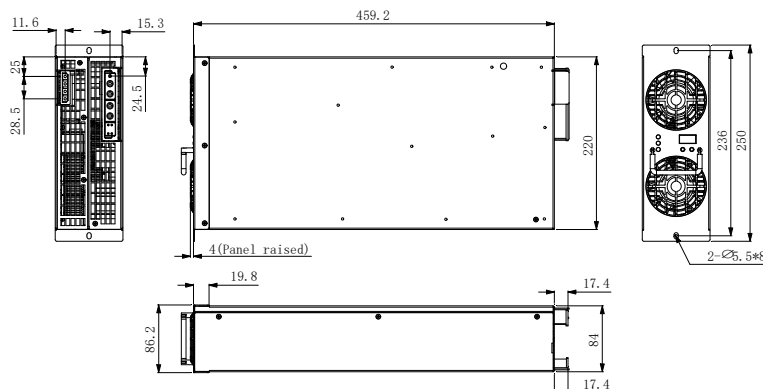

Figure 2-6 Module Dimensions (mm)
2.2.1 The dimension of MXR100200B is shown in figure 2-6.